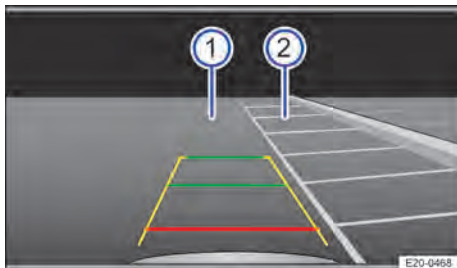

Fig. 113 Infotainment system: Choose parking space.
3. Position the vehicle in front of the parking space → Fig. 113 ②.